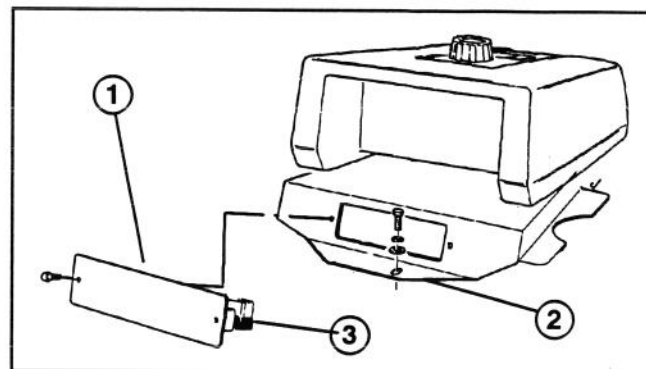

Figure 4
19. Remove (2) self tapping screws securing electrical plate to front of fuel tank base. Move plate away from base to expose glow indicator mounted to left end of plate (Fig. 4).
21. Reinstall electrical plate to front of fuel tank base with (2) self tapping screws previously removed. (Fig. 4).